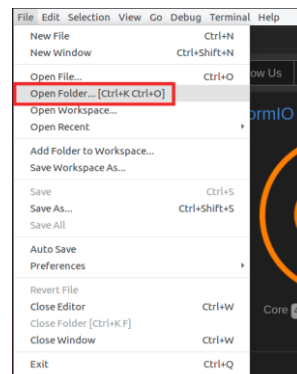

Figure 101. Open Folder
4. On the top menu bar, click on *File* → *Open Folder* (see Figure 101) and browse into directory *[RVfpgaEL2NexysVideoNODDRPath]/examples/examples_PlatformIO*